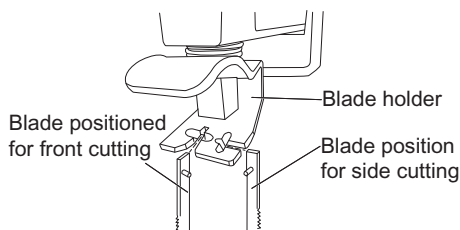

Fig. 13
- > The blade holder allows the blade to be fitted either in the front of the holder or to its side. In order to place the blade in the required position it is necessary to align the blade correctly. By cutting from the side of the saw it will be possible to cut longer work-pieces as this overcomes the restriction of the throat depth. The table must remain set in the 0 degree level position. (Fig. 13)